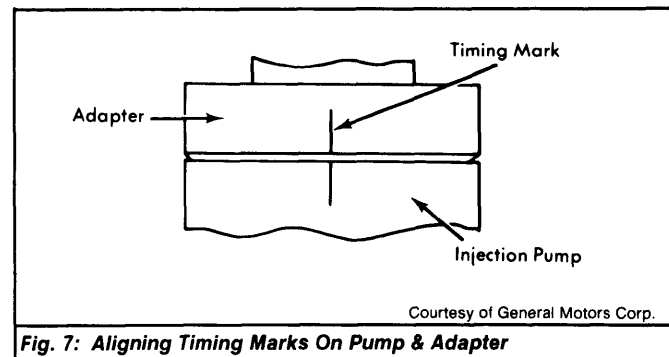

Fig. 7: Aligning Timing Marks On Pump & Adapter
- 2) Connect pump lines at nozzles and tighten to 25 ft. lbs. with 2 wrenches. Connect fuel return lines to nozzles and pump. Align mark on injection pump with line on adapter. See Fig. 7. Tighten retaining nuts to 18 ft. lbs.
1) Engine is properly timed when marks on top of injection pump adapter and pump flange are aligned. See Fig. 7. If marks are not aligned, adjustment is necessary.